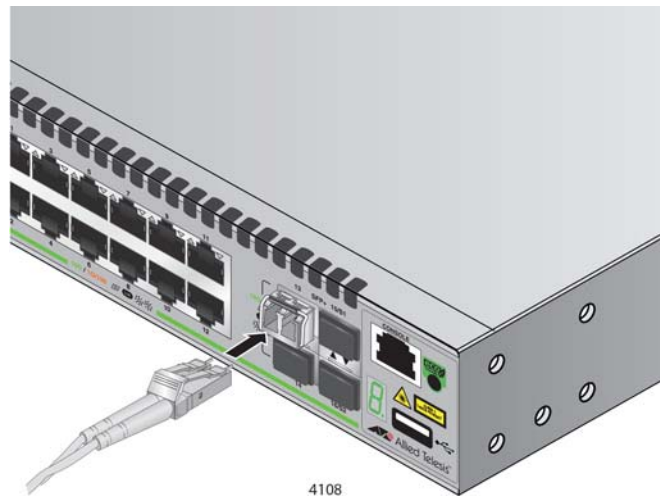

Figure 43. Connecting a Fiber Optic Cable to an SFP Transceiver
7. Connect the fiber optic cable to the transceiver, as shown in Figure 43.